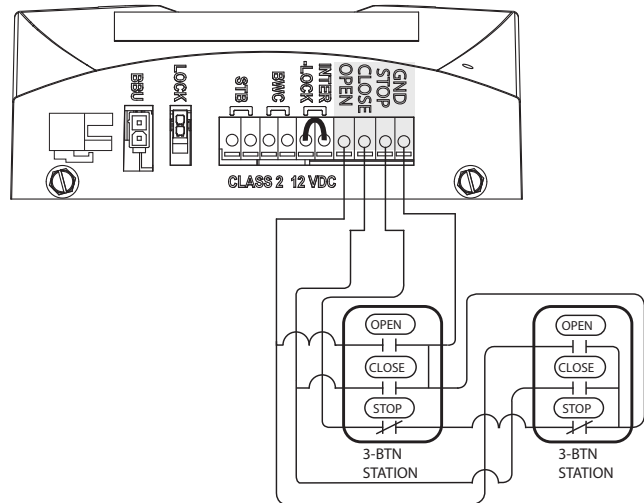

**Fig. 1**
1. For a single open/close/stop installation, make connections as shown in Fig. 1.